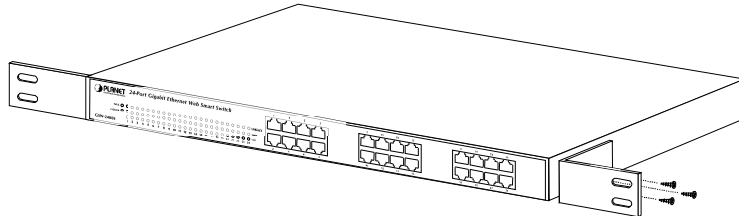

Figure 2-5 Attaching the brackets to the GSW-2400S
Step2: Attach a rack-mount bracket to each side of the switch with supplied screws attached to the package. Figure 2-5 shows how to attach brackets to one side of the switch.